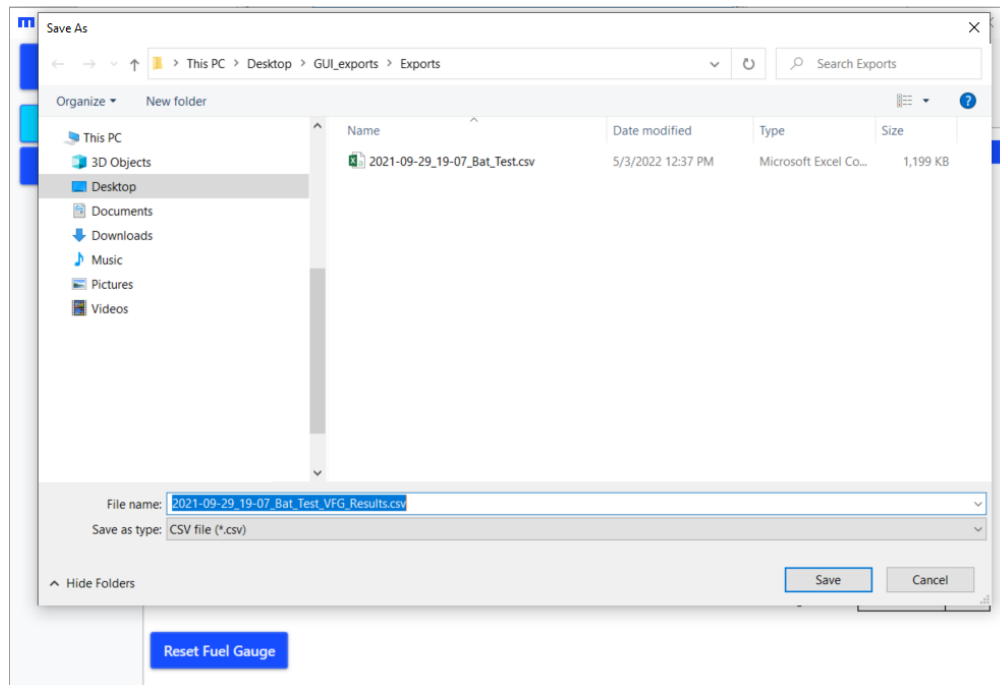

Figure 61: Virtual Fuel Gauge (Store Results)
- Once a valid file is selected, click “Generate” to start a test. A window should appear to allow the user to select where the test results are stored (see Figure 61).